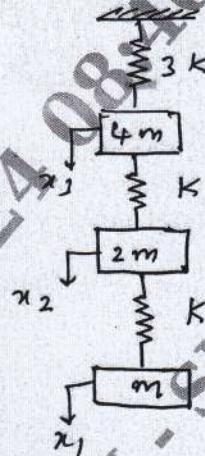

Fig.Q8
- 8 By the Holzer method, find the natural frequencies of the system shown in Fig.Q8. Assume $K = 1 \text{ N/m}$; $m = 1 \text{ kg}$.